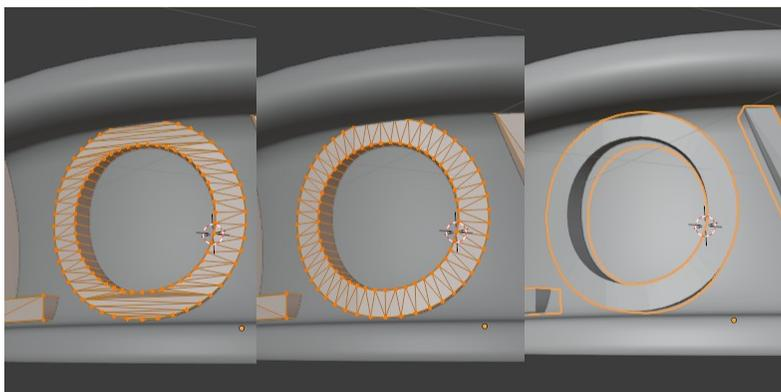

Figure 3-4 Beautifying an ugly arrangements of faces
- Switch to Edit mode, select all vertices then **Face ▶ Beautify Faces**. The rearrangement can be seen clearly in Figure 3-4